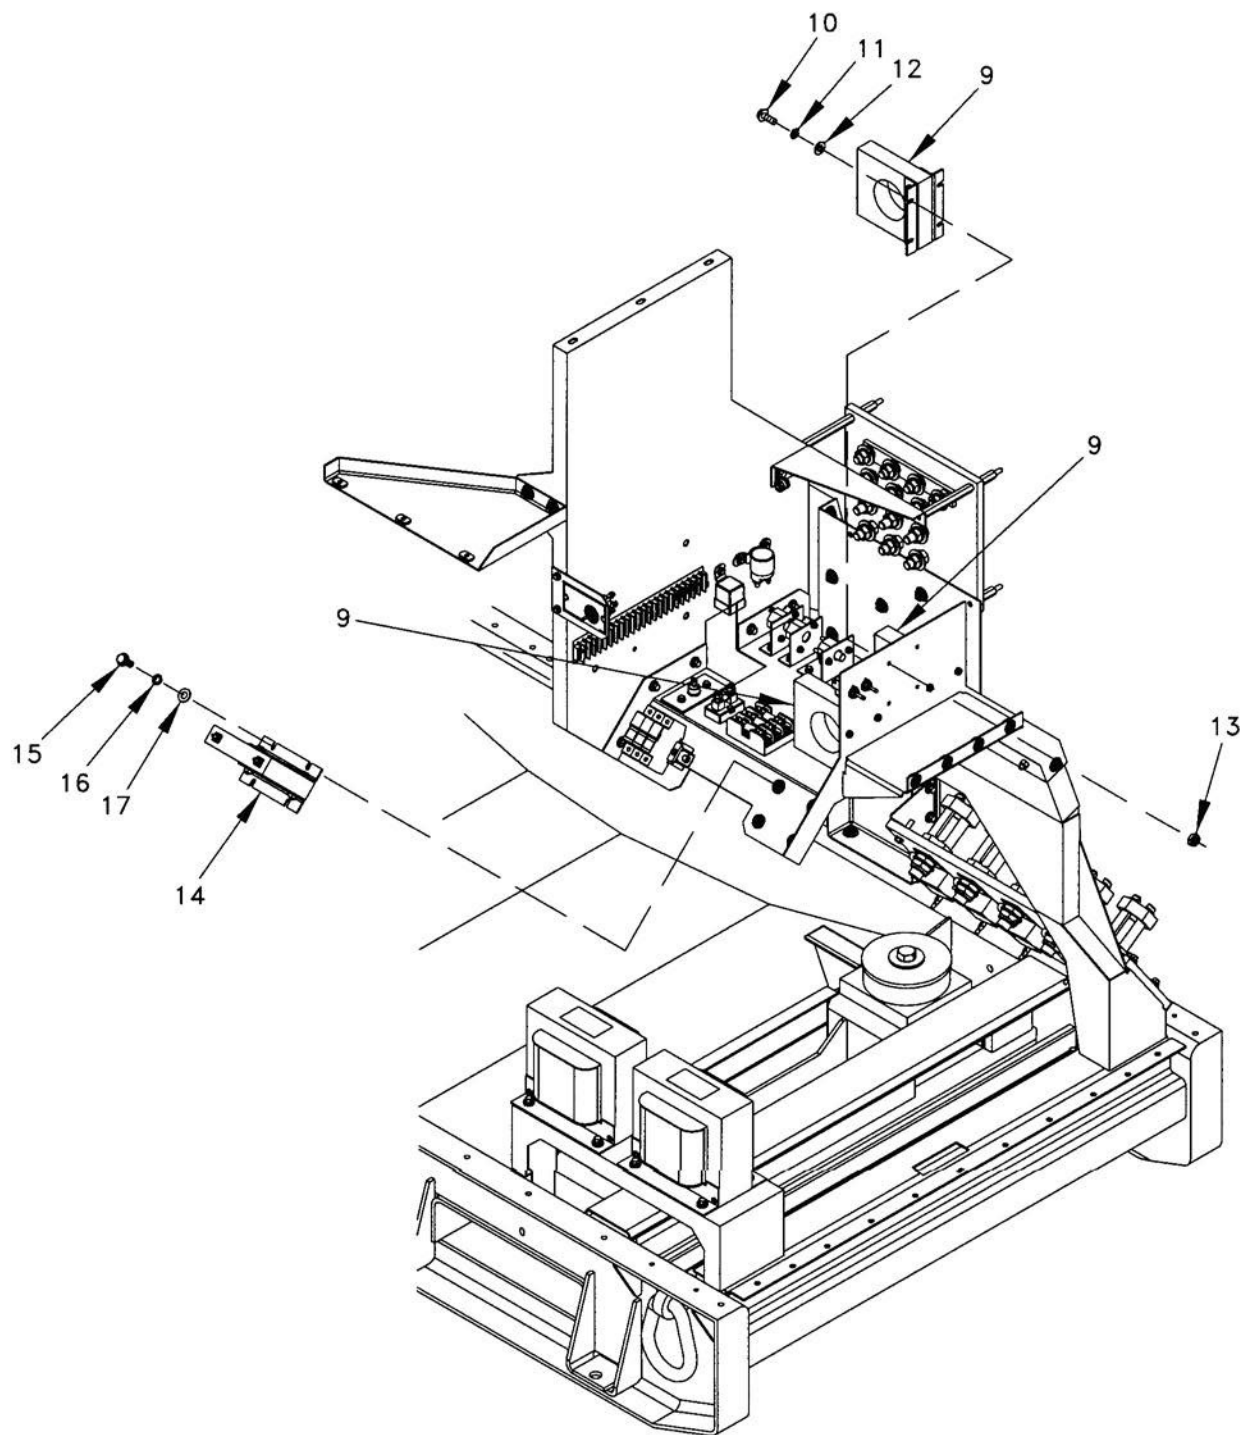

Figure 1. Current Transformer (Sheet 2 of 2).
3. Put one end of cable through each of three current transformers (Figure 1, Sheet 2, Item 9) to be installed above the generator, remove tags, and connect end of each cable.